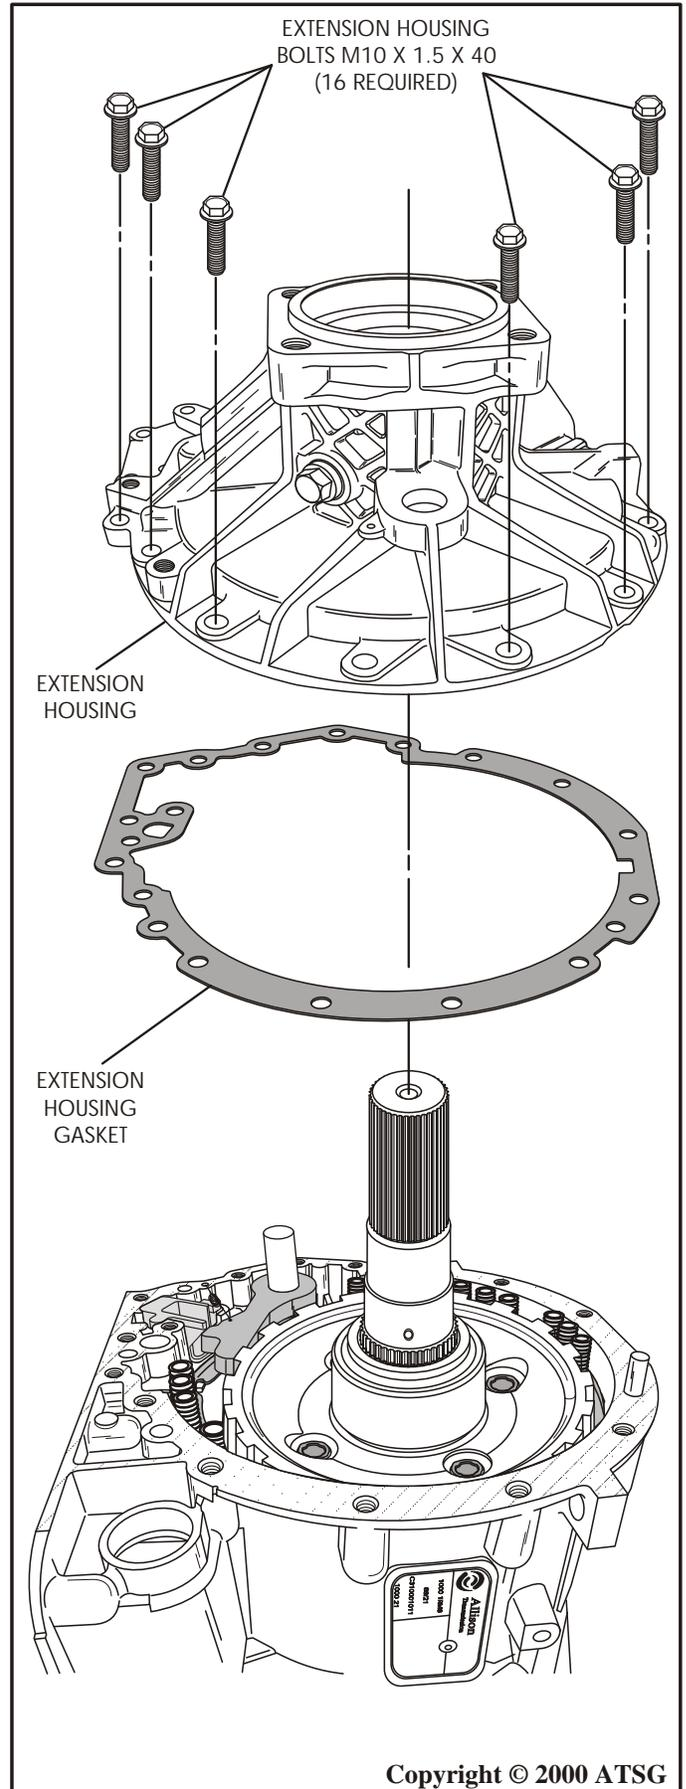

Figure 161
Note: Ensure that P3 planetary carrier and output shaft are fully seated, as shown in Figure 161.
34. Install new extension housing to case gasket on case, as shown in Figure 161.
35. Install the pre-assembled extension housing assembly onto the case (See Figure 161).
36. Install 16 extension housing bolts and torque to 50 N.m (37 ft.lb.) (See Figure 161).